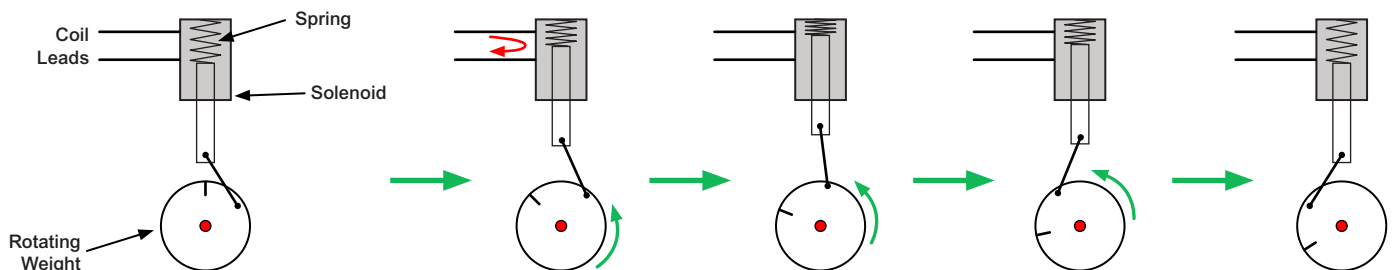

Figure 4: Mechanism Rotation Sequence
This arrangement also conforms with a similar requirement in Article 701.5(C) of the 2017 National Electrical Code®.² Figure 4 shows the operating sequence for a single transfer.